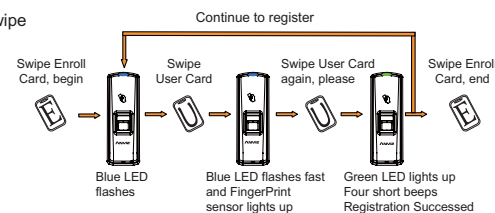

Figure 1.2
- **Add Card Only: (Operation Steps show as figure 1.2)**